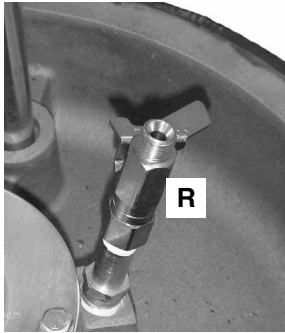

FIG. 10
8. Open the drum vent valve (R), FIG. 10.
10. After the ram plate seals contact the drum, adjust the ram air regulator (D) to about 30-50 psi (207-345 kPa, 2.1-3.4 bar).
11. When the ram stops and material fills the bleed port (or air stops bleeding out), close the drum vent valve (R), FIG. 10.